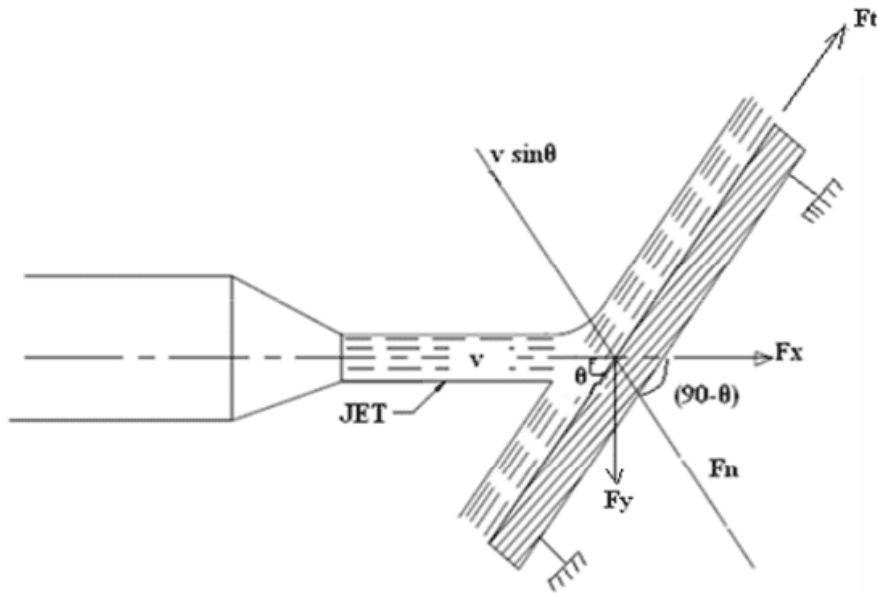

Figure 2: Plate inclined to jet.
**Determine of division of flows:** Let  $F_s$  ( $F_t$  in fig. 2) be the force along the inclined surface of plate and  $Q_1$  and  $Q_2$  are quantities of flow along the surface. As there is no change in elevation of pressure before and after impact, the magnitude velocity leaving the plate will remain the same.